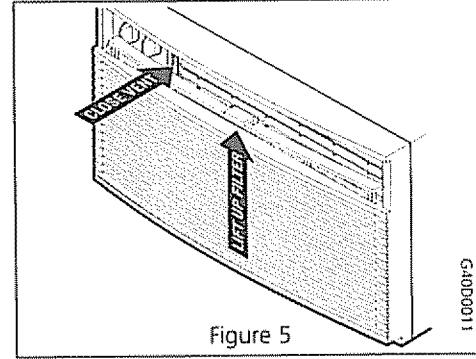

Figure 5
- For compact models, push the vent control handle to the CLOSED position. Grab the tab and lift the filter straight up and out (Figure 5). **Note:** For compact models without the visible filter tab, see "Filter Removal, Some Compact Models" on previous page